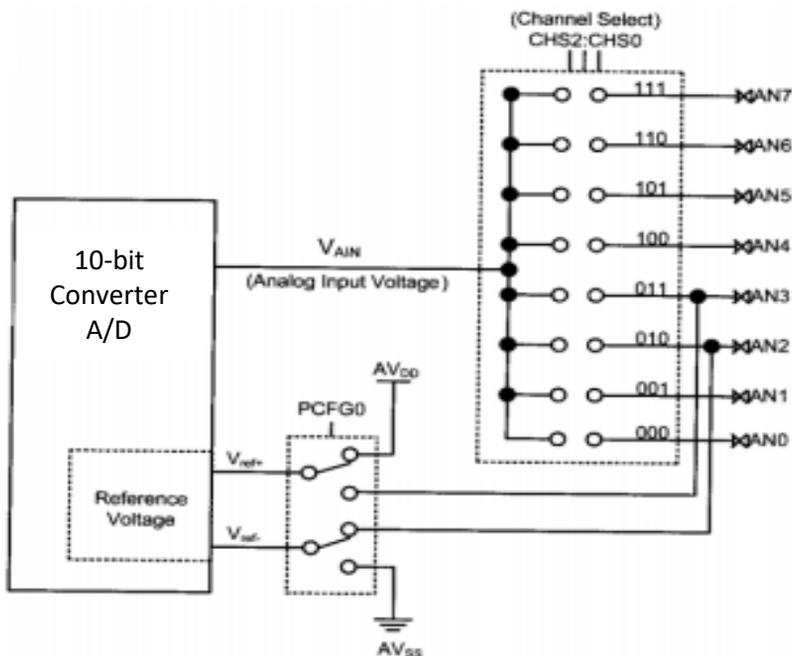

Figure 4.9: The 13 input channels available to the PIC18F4550
- This is done via the input bit pin RA0 – RA12 of the microcontroller as shown in Figure 4.9.